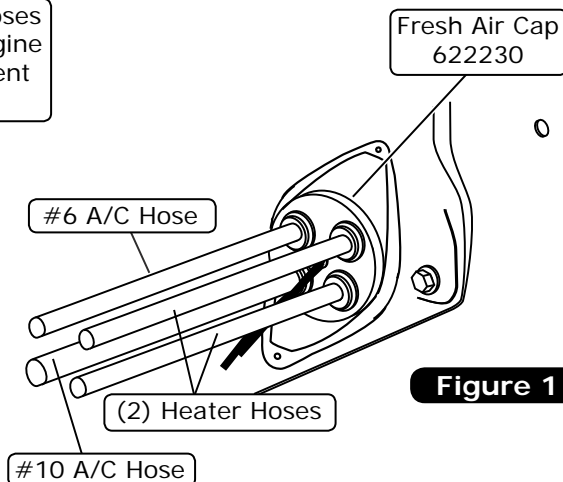

Figure 1
**NOTE:** Install all hoses through the fresh air cap grommets (See Photo 1, below), then into the opening in the engine compartment through the kick panel opening (See Photo 2 and Figure 1, below).